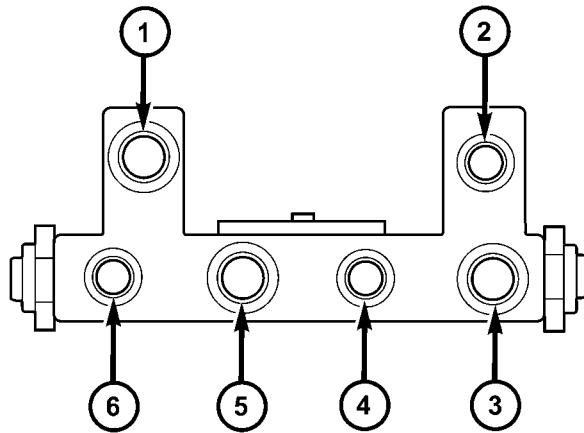
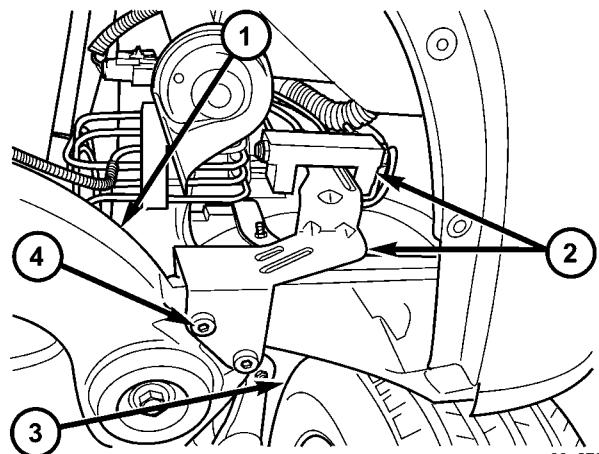

Fig. 62 Junction Block Fitting Identification
Fig. 63 Junction Block Mounting
A junction block is used on vehicles that are not equipped with antilock brakes (ABS). The junction block is located in front of the driver's side front tire behind the front fascia (Fig. 63). The junction block mounts in the same location as the ABS integrated control unit (ICU) does on vehicles with ABS.
(6) Lift the transmission control module (with speed control servo attached) from its mount leaving its wiring harness attached. Move it off to the side toward the engine making sure not to strain the wires and speed control servo cable.
(7) Clean any debris away from the fittings on top of the junction block.
(8) Remove the two brake tubes coming from the primary and secondary master cylinder ports at the junction block (Fig. 62).
(9) Remove the four chassis brake tubes going to each brake, mounted across the front top of the junction block (Fig. 62).
(10) There are two bolts fastening the junction block and mounting bracket to the engine cradle crossmember. Remove the outboard bolt fastening the mounting bracket to the engine cradle crossmember.
(11) Raise the vehicle. See hoisting in Lubrication and Maintenance.
(12) Loosen, but do not remove, the remaining mounting bolt fastening the junction block mounting bracket to the engine cradle crossmember (Fig. 63).
(13) Pivot the junction block and bracket forward on the remaining mounting bolt and remove the junction block and bracket from the vehicle.
(1) If not already installed, install, but do not tighten, the one bolt in the junction block bracket (Fig. 63).
(2) Install the junction block with mounting bracket onto the engine cradle crossmember guiding
(3) Align the remaining mounting bolt hole in the junction block bracket with its mounting hole in the engine crossmember and install, but do not tighten, the remaining mounting bolt.
(4) Tighten the first mounting bolt (installed in engine cradle crossmember slot) (Fig. 63) to 26 N·m (230 in. lbs.) torque with the aid of a crow foot wrench.
(5) Lower the vehicle to the ground.
(6) Tighten the remaining junction block bracket-to-engine cradle crossmember mounting bolt to 26 N·m (230 in. lbs.) torque.
(7) Install the four chassis brake tubes (going to each brake) to the junction block (Fig. 62). Tighten the tube fittings to 17 N·m (145 in. lbs.) torque with the aid of a crow foot wrench.
(8) Install the two brake tubes coming from the primary and secondary master cylinder ports to the top rear corners of the junction block (Fig. 62). Tighten the tube fittings to 17 N·m (145 in. lbs.) torque with the aid of a crow foot wrench.